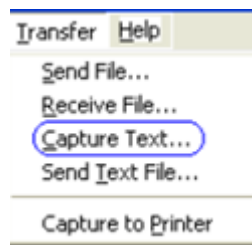

Figure 4 HyperTerminal Text Capture
8. [] Select **Transfer** and **Capture Text** in the HyperTerminal dropdown menu (Figure 4)